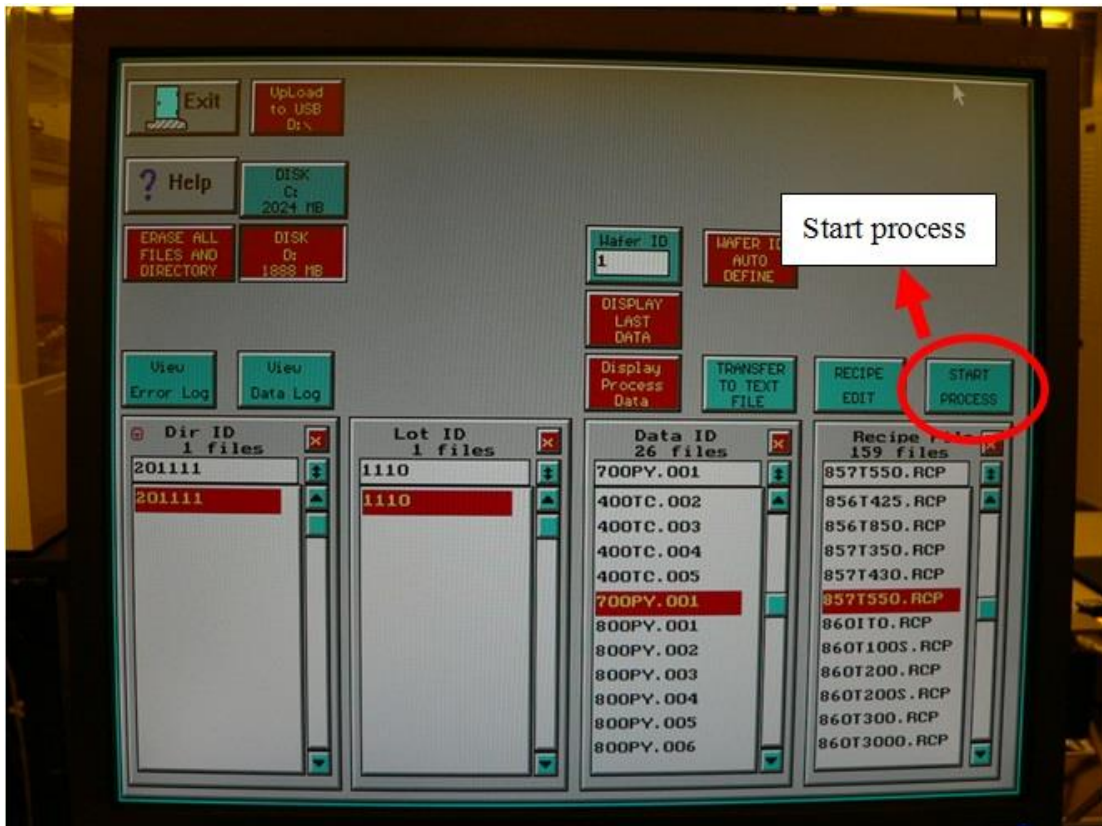

Fig.11 “START PROCESS” button
3. If no recipe parameters are being changed, Click “Exit” and then click “START PROCESS” to start the process (Fig.11).